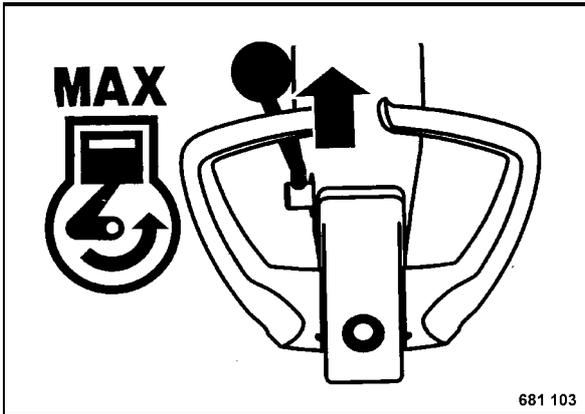

Fig. 16
- Set the throttle lever (Fig. 16) to position "MAX" (full speed).